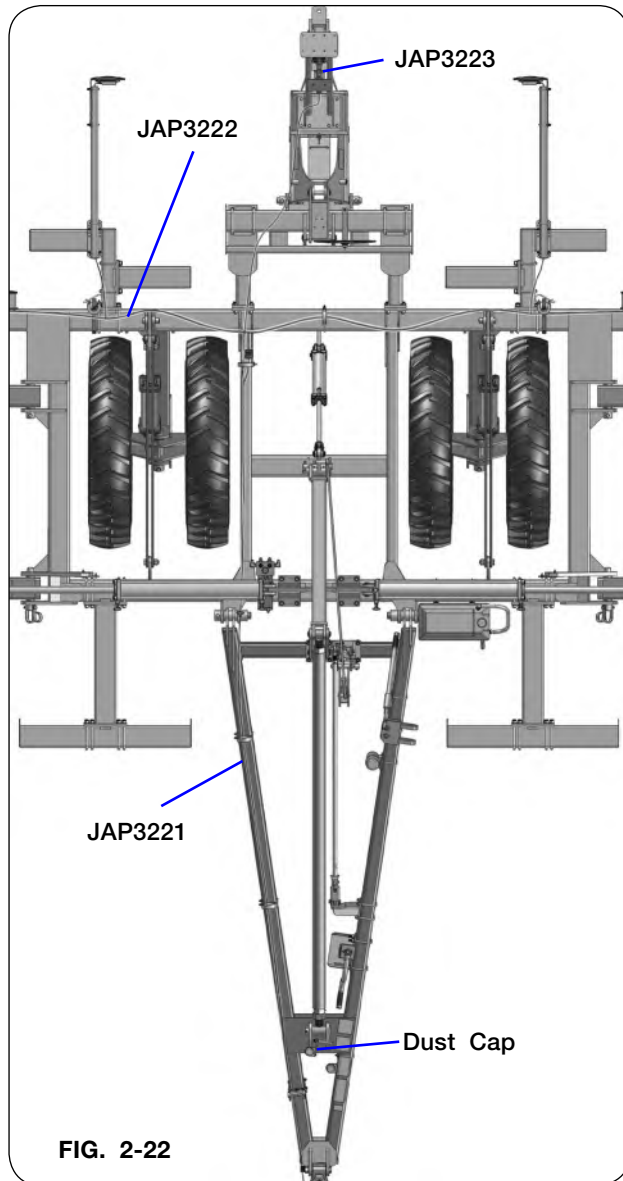

FIG. 2-22
3. Extend rear electrical wiring harness (JAP3222) from lights to right-hand and left-hand sides across the rear of frame. (FIG. 2-22)
4. Attach electrical wiring harness extension (JAP3221) to rear electrical wiring harness (JAP3222). Extend down the right-hand side of the tongue through hose holders to dust cap. (FIG. 2-22)
5. Attach electrical wiring harness extension (JAP3221) to electrical plug and socket harness (JAP3223). (FIG. 2-22)